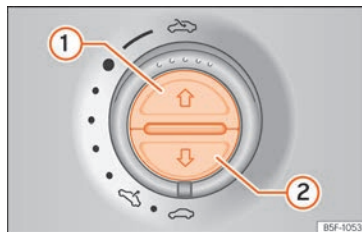

Fig. 143 On the interior roof lining: switches for the sun blind.
To open completely (automatic):	Press button »» Fig. 143 ① briefly.
To stop automatic operation:	Briefly press the button »» Fig. 143 ① or »» Fig. 143 ②.
To set the intermediate position:	Hold the button »» Fig. 143 ① or »» Fig. 143 ② until the required position is reached.
To close completely (automatic):	Press button »» Fig. 143 ② briefly.
- *Sun blind*: within 5 seconds of triggering the anti-trap function, push button » » » **Fig. 143**  .